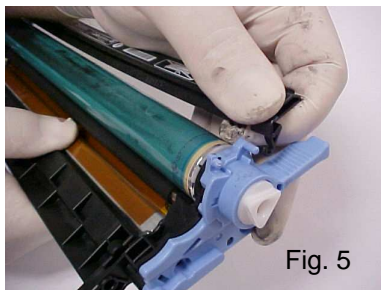

Fig. 5
5. Remove the drum shutter by unsnapping from its cradles (Fig. 5).